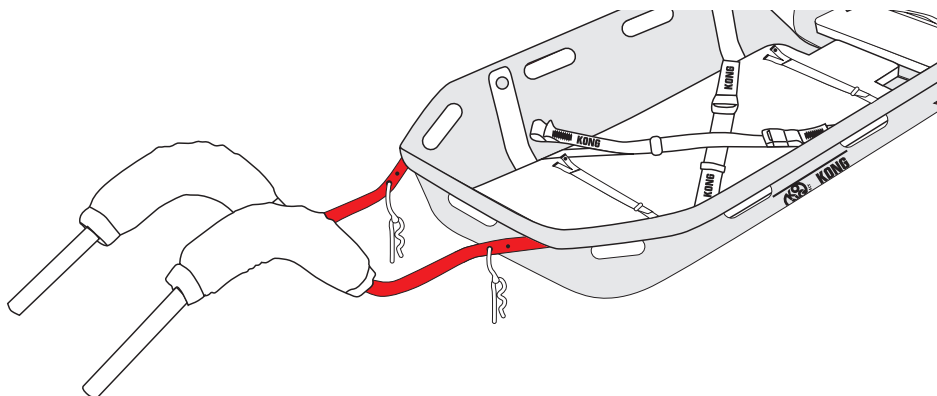

Fig.14
- a) Connect the handles to the frame of the stretcher (fig.14), making sure to observe the coupling numbering,